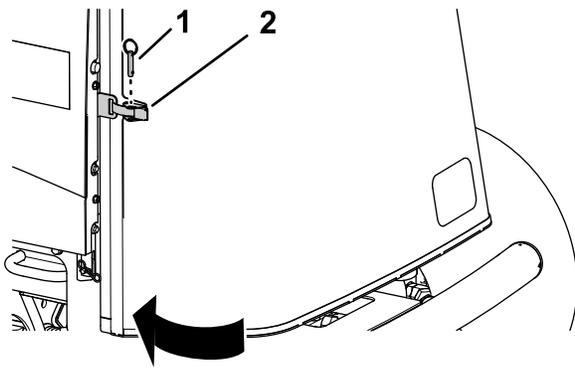

Figure 61
1. Close and latch the screen (Figure 61).